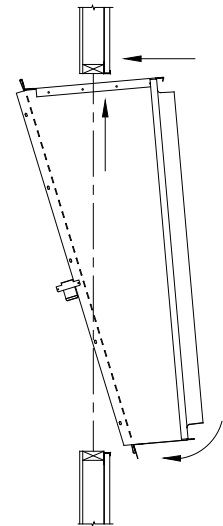
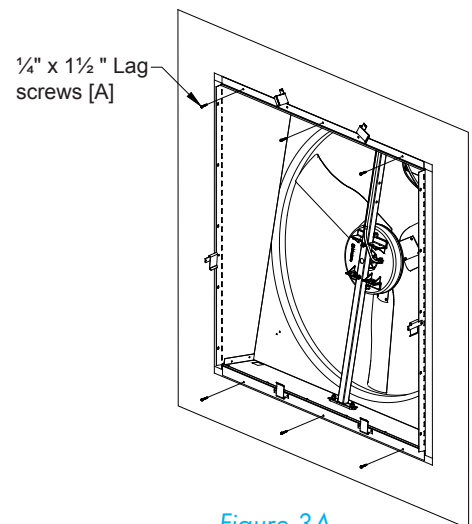

Figure 2
Figure 3A
Slide fan assembly into framed wall opening from outside of the building. Insert top of fan into opening and hold fan against top frame. Midpoint of top panel must be aligned with framing for bottom flange of fan to pass through opening. *See Figure 2.* Secure top and bottom flanges to wall using (6) Screws [A]. *See Figure 3A.*